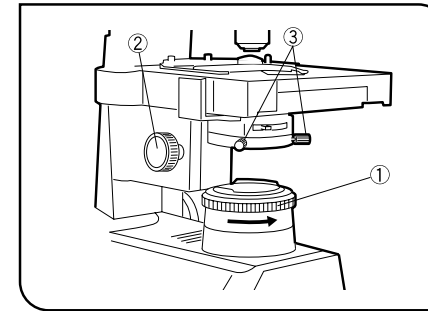

Fig. 21
**1 Centering the Field Iris Diaphragm (Figs. 21 & 22)**
1. With the 10X objective engaged and the specimen brought into focus, turn the field iris diaphragm ring ① counterclockwise to stop down the diaphragm to near its minimum size.
2. Turn the condenser height adjustment knob ② to bring the field iris diaphragm image into focus.
3. Rotate the two condenser centering knobs ③ to adjust so that the field iris diaphragm image is centered in the eyepiece field of view. (Figs. 21 & 22)